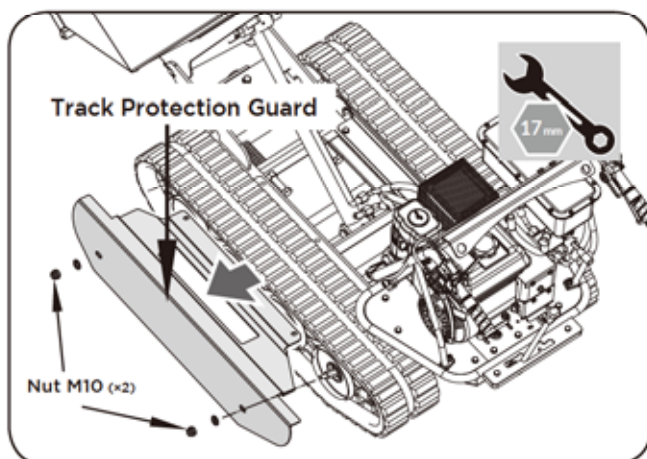

Figure 11c
4. Remove the two M10 nuts and washers from the side of track protection guard. (See **Figure 11c**)